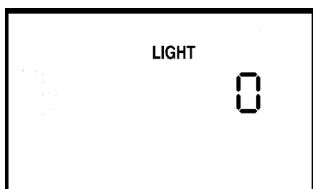

Figure 6–11 LED Backlight Setting Screen
1. From either the Monitoring or Standby screens, press the **Right User** button until the LED Backlight Setting screen appears, as shown in Figure 6–11.